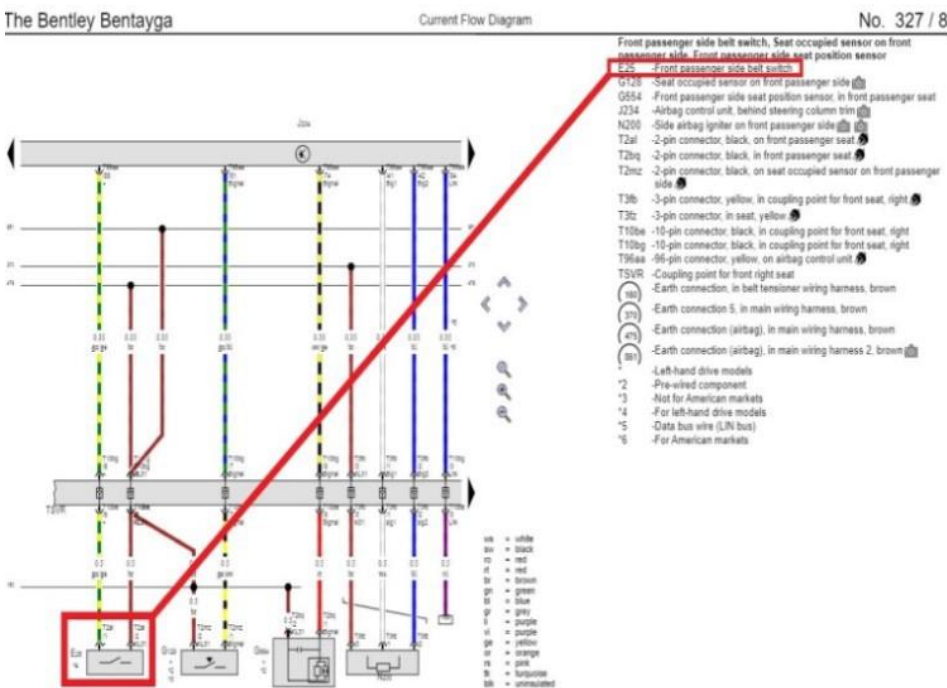

Figure 5
- 4) Referring to the applicable wiring diagram/Figure 5 - Locate E25